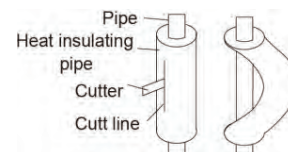

Fig.7
- (1). The pipes are shaped by your hands. Be careful not to collapse them.
- (2). Do not bend the pipes in an angle more than 90°.
- (3). When pipes are repeatedly bent or stretched, the material will harden, making it difficult to bend or stretch them any more. Do not bend or stretch the pipes more than three times.
- (4). When bending the pipe, do not bend it as is. The pipe will be collapsed. In this case, cut the heat insulating pipe with a sharp cutter as shown in Fig.7, and bend it after exposing the pipe. After bending the pipe as you want, be sure to put the heat insulating pipe back on the pipe, and secure it with tape.